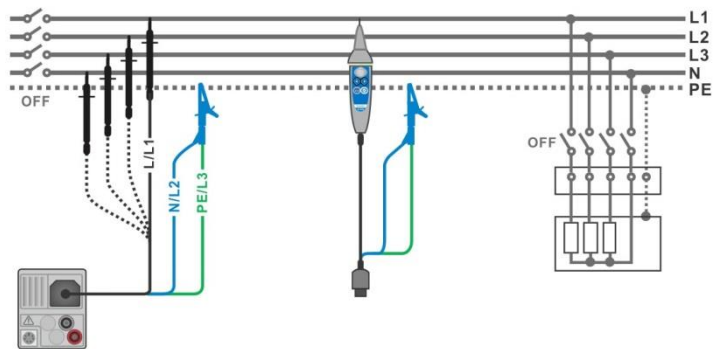
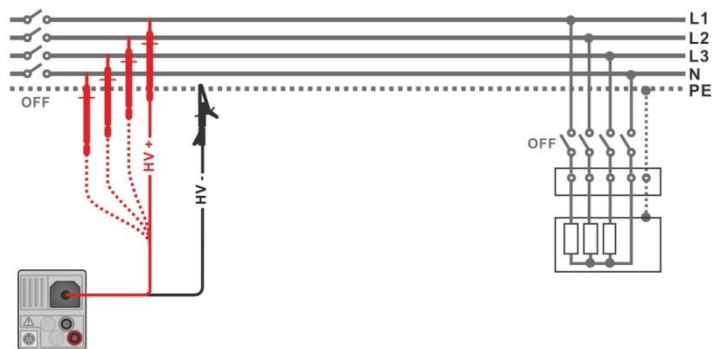

Figure 7.12: Connection of 3-wire test lead and Tip commander ($U_N \leq 1 \text{ kV}$)
Figure 7.13: Connection of 2.5 kV test lead ($U_N = 2.5 \text{ kV}$)
- › Connect test leads to object under test (see **Figure 7.12** and **Figure 7.13**). Different test cable must be used for testing with nominal test voltage $U_N \leq 1000 \text{ V}$ and $U_N = 2500 \text{ V}$. Also, different test terminals are used. The standard 3-wire test lead, Schuko test cable or Plug / Tip commanders can be used for the insulation test with nominal test voltages $\leq 1000 \text{ V}$. For the 2500 V insulation test the two wire 2.5 kV test lead should be used.